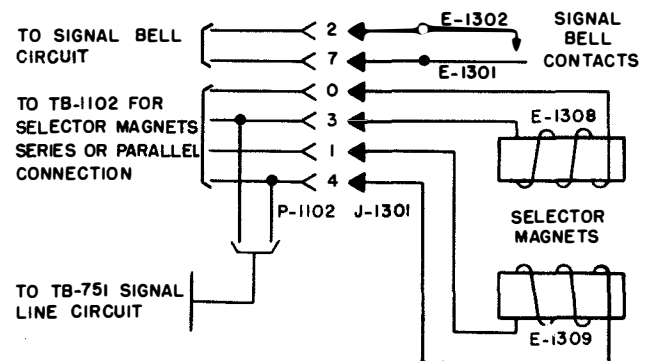

Figure 2-33. Automatic Typewriter MX-1115A/UG, Schematic Wiring Diagram
(1) The receiving circuit for the Automatic Typewriter (figure 2-33) consists of two 132 ohm selector magnet coils E-1308 and E-1309 wired to a receptacle J-1301 which is mounted on the automatic typewriter right frame (figure 1-4). At the time the Automatic Typewriter is installed in its Cabinet, connector P-1102 on the end of a rubber covered cable which emanates from the Power Distribution Panel SB-154A/UG (figure 1-13), is plugged into this receptacle. A terminal board TB-1102 in the Power Distribution Panel provides for the connection of the selector magnet coils in series for 0.020 ampere line current operation, or in parallel for 0.060 ampere line current operation.
(2) The Automatic Typewriter also has a set of electrical contacts E-1301 and E-1302 which are connected to the receptacle J-1301 on its right frame. These are used to pulse a signal bell magnet E-759 in the Cabinet and are operated by a mechanism described in paragraph 4.i.(7).